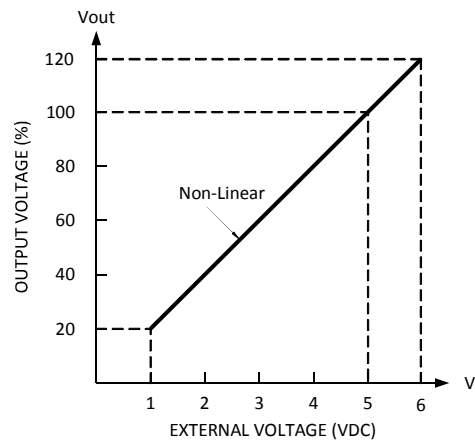

Fig 3.2
(3) Trimming of output voltage is allowable between 20~120%(Typ.) of the rated output voltage which is shown in Fig 3.2.